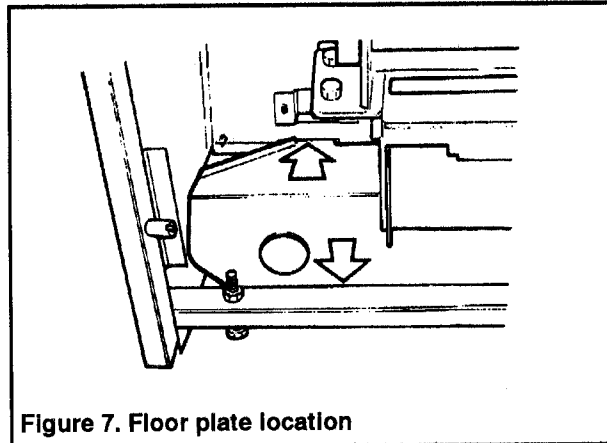

Figure 7. Floor plate location
- 4.3.5. Fit the floor plate ensuring that the rear tabs locate in the slots in the back panel, and the front of the plate rests on the flange at the back of the bottom cross bar (see figure 7). Fitting the plate will be easiest if its right side is first fed in behind the gas tap and thermocouple and the left side of the plate is then swung into the fire.